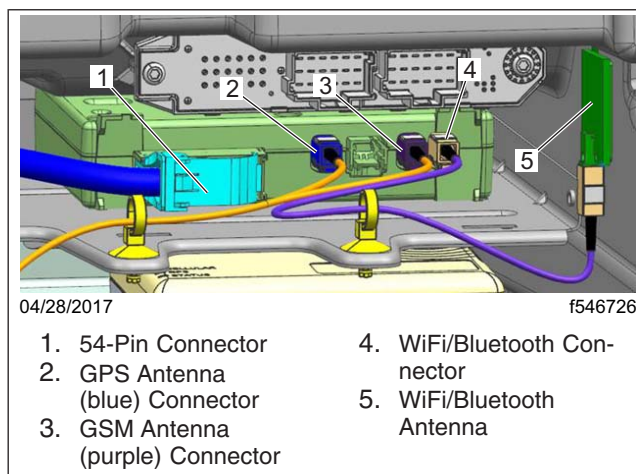

Fig. 1, Common Telematics Platform ECU
5. Disconnect the connectors from the cTP ECU. See Fig. 1.